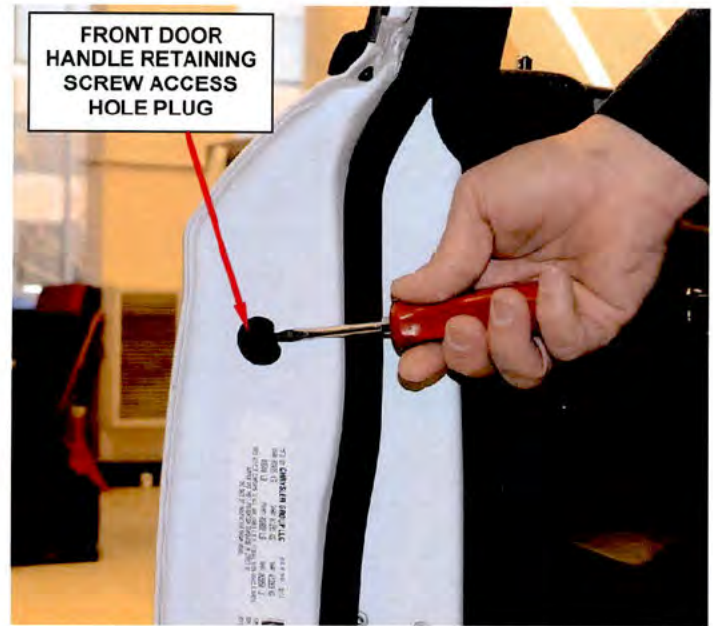

Figure 16 – Access Hole Plug
2. Remove and save the front door handle retaining screw access hole plug (Figure 16).
10. Install the front door handle retaining screw access hole plug (Figure 16).